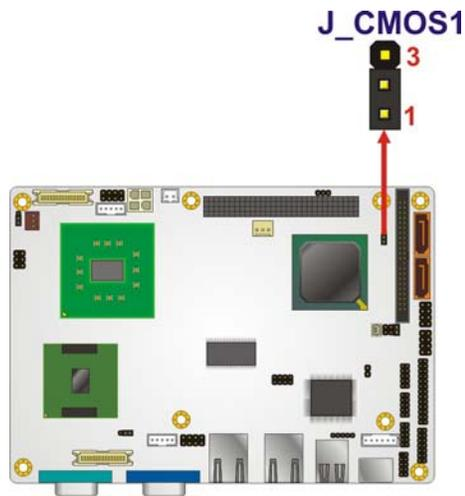

Figure 4-18: Clear CMOS Jumper
- Jumper Location:** See **Figure 4-18**
The location of the clear CMOS jumper is shown in **Figure 4-18** below.